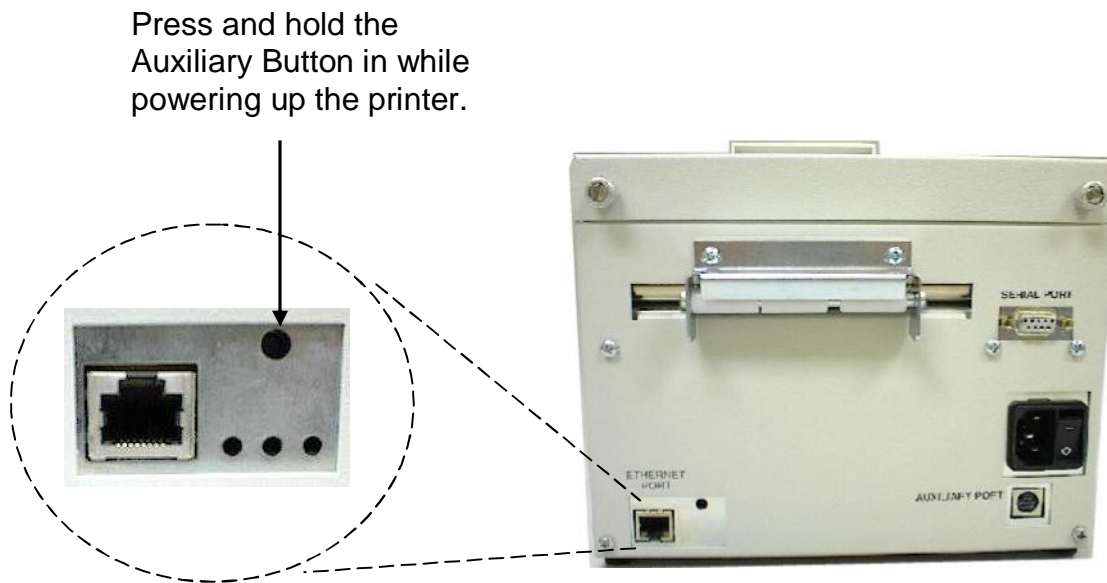

Figure 21 Auxiliary Button
4. While pressing the Auxiliary button (see Figure 21) turn the printer power switch on. *Note: To press the Auxiliary button, use a ballpoint pen and gently press and hold the switch in.*